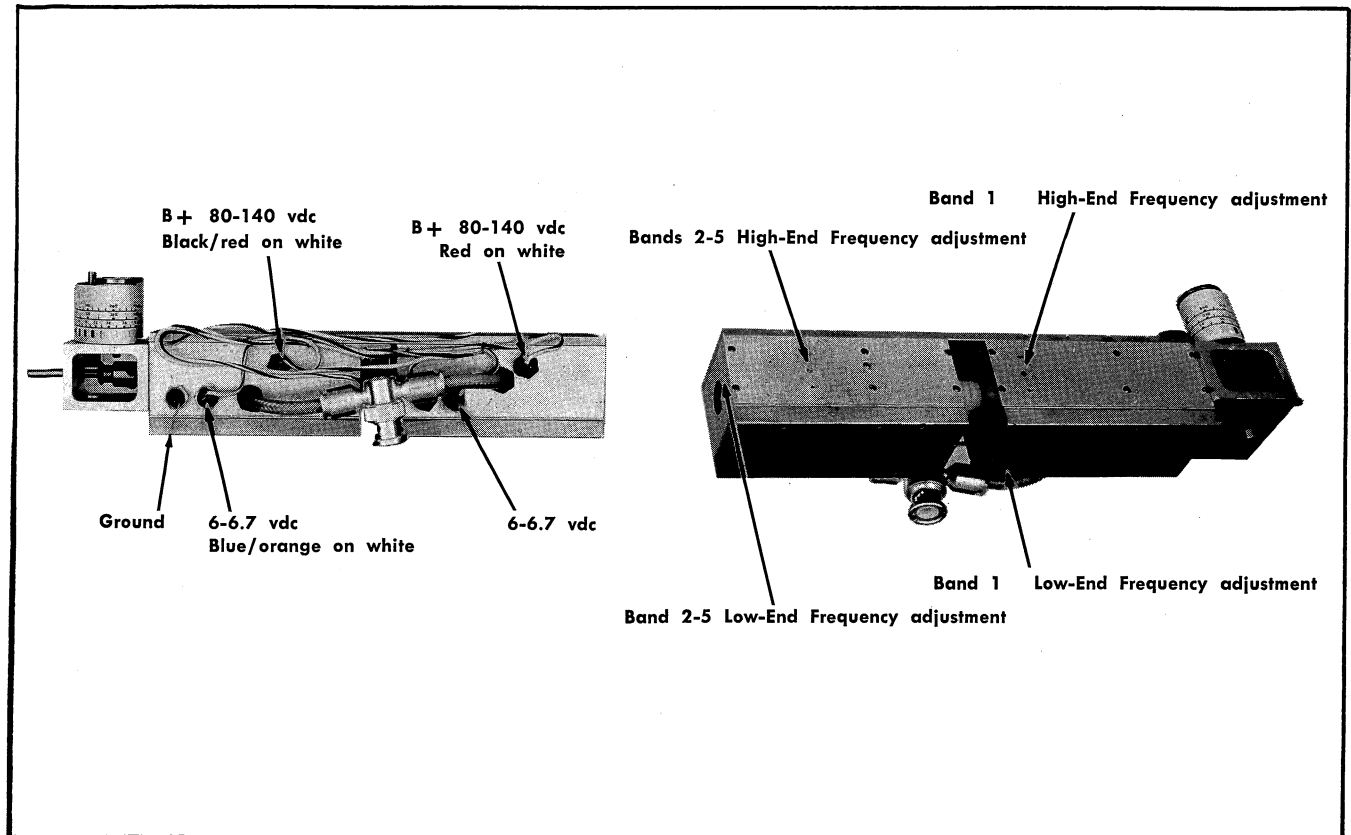
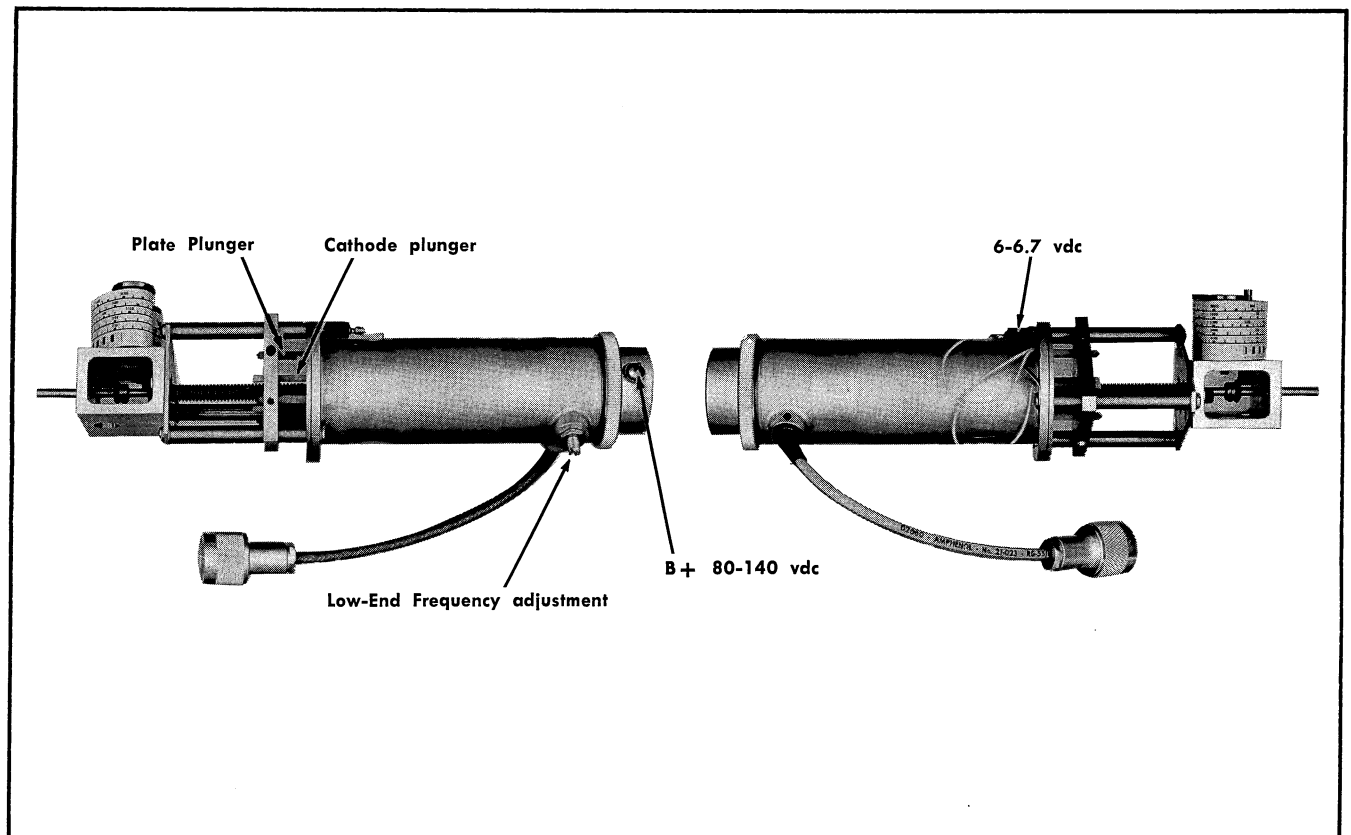

Fig. 5-4. L-20 R.F. Section illustrating test points and adjustments.
Fig. 5-5. L-30 R.F. Section illustrating test points and adjustments.
1. With a voltmeter, check for proper plate and filament voltages at the points shown in Fig. 5-4 or 5-5. Fig. 5-4 applies to the Model L-20 SPECTROPULSE Spectrum Analyzer and Fig. 5-5 applies to the Model L-30 SPECTROPULSE Spectrum Analyzer.